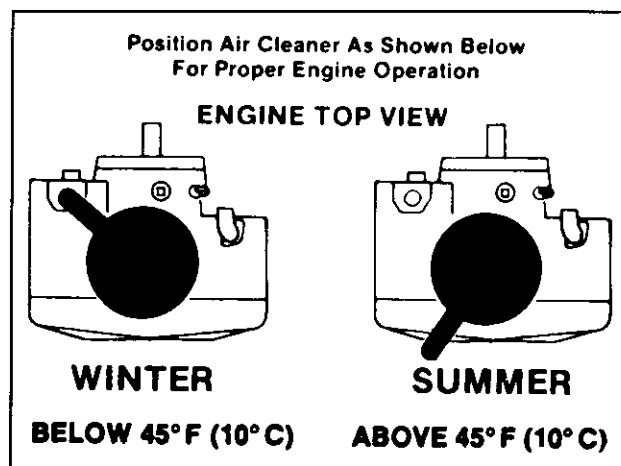

Figure 5-5. Typical Decal - Anti-Icing Air Cleaner Cover Positions.
3. Install the air cleaner cover with the inlet duct positioned for the season of operation. Refer to the decal on the air cleaner cover (Figure 5-5).